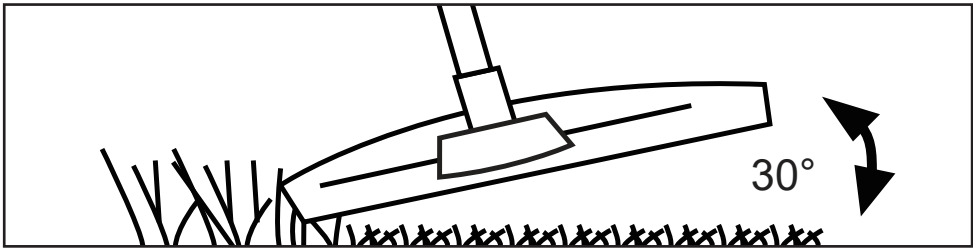

Fig. 13
- Hold the cutting attachment just above the ground at an angle of approximately 30° (Fig. 13).